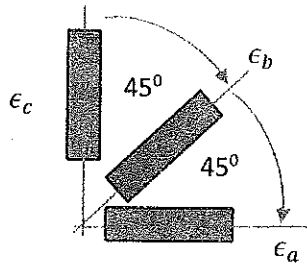

Figure Q5
- (iii) The stress state of a certain steel components was determined using a strain rosette as shown in Figure Q5. Due to the loadings, strain gauges gave strain values as  $\epsilon_a = 30 \mu\epsilon$ ,  $\epsilon_b = 50 \mu\epsilon$ ,  $\epsilon_c = 90 \mu\epsilon$ .